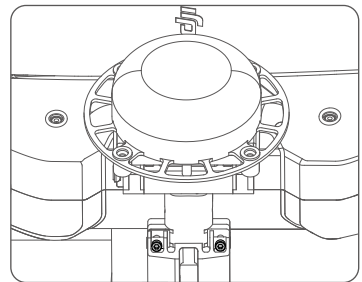

Fig.5
2. Check that the landing gear lock screw is tightened properly, and ensure that the landing gear firmly locks when connected to the drone. (Fig. 5)